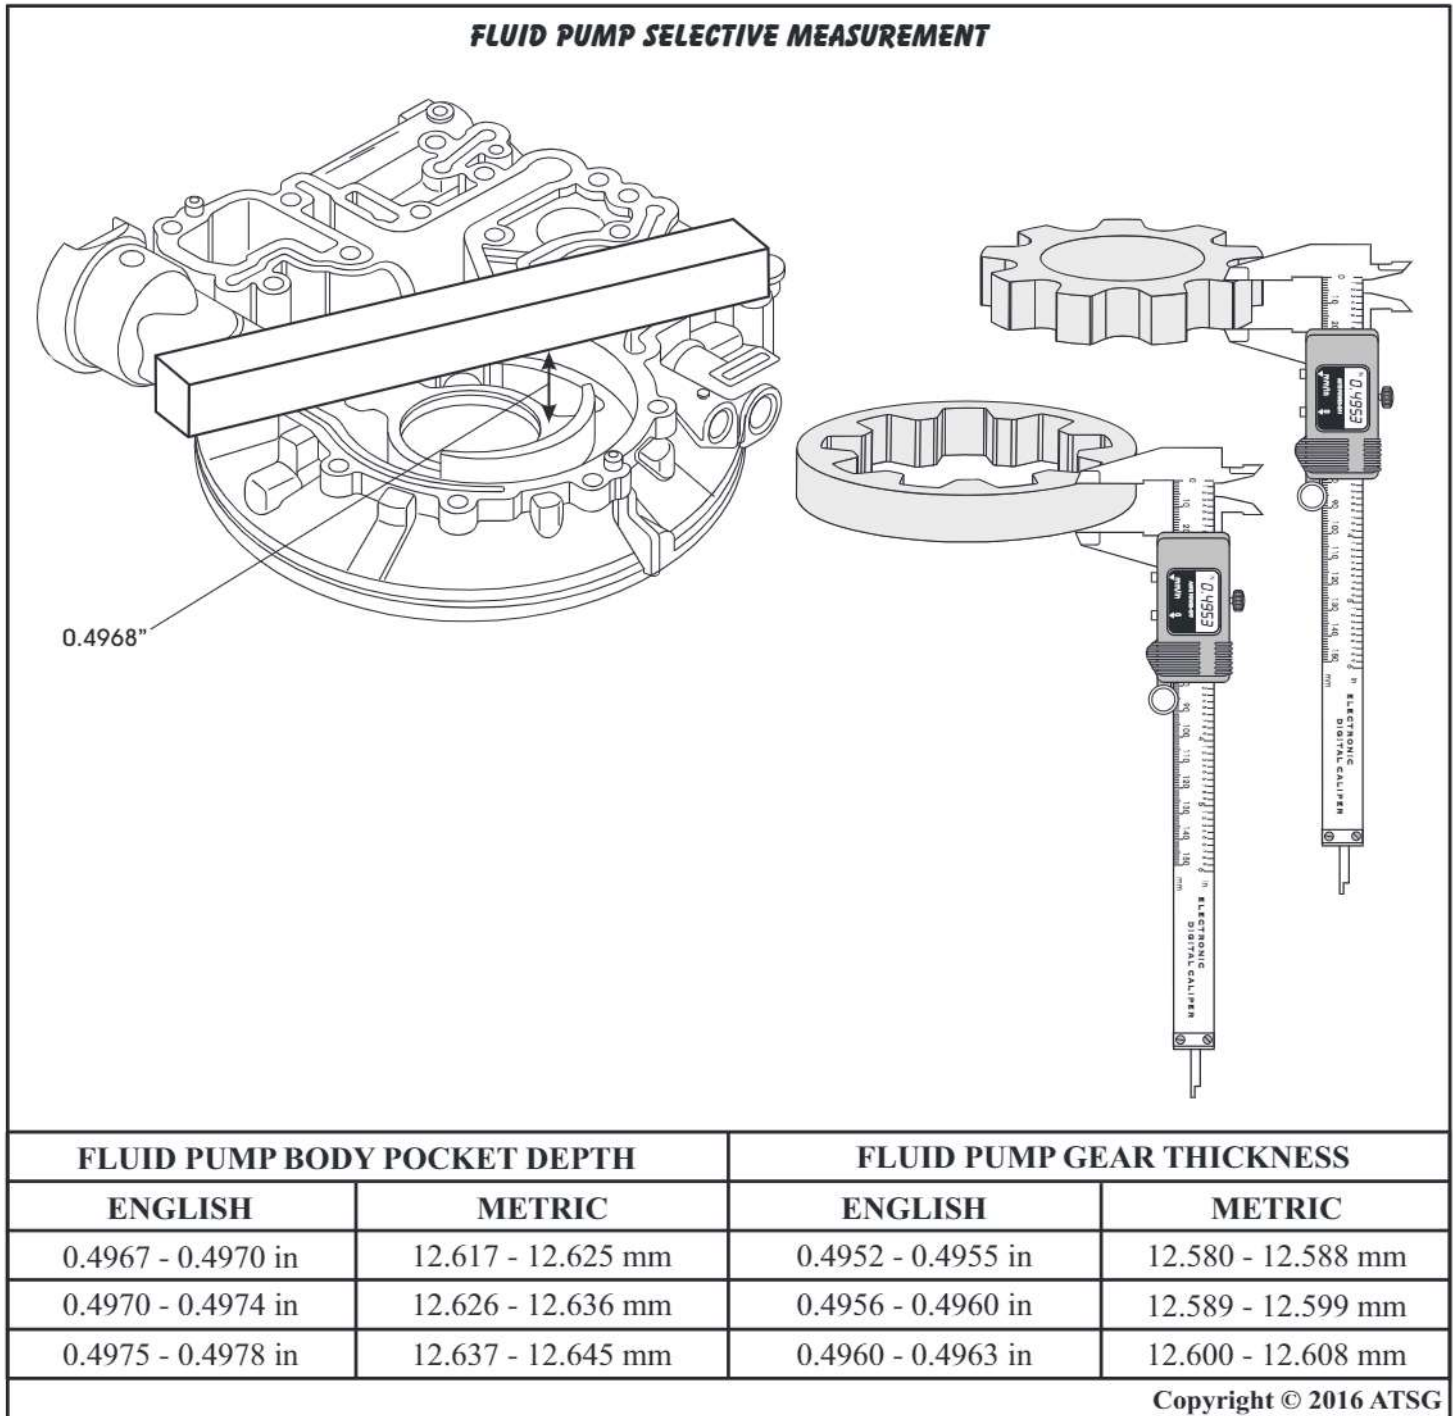

Figure 128
11. In order to insure proper pump gear clearance, place a straight edge across the pump body gear pocket area as shown in Figure 128.
12. Measure from the bottom of the straight edge to the pump gear pocket surface as shown in Figure 128.
13. Measure the thickness of both the pump drive and driven gears as shown in Figure 128.
14. Refer to the chart in Figure 128 for correct gear clearance or for replacement gear selection based on the measurements that were taken.